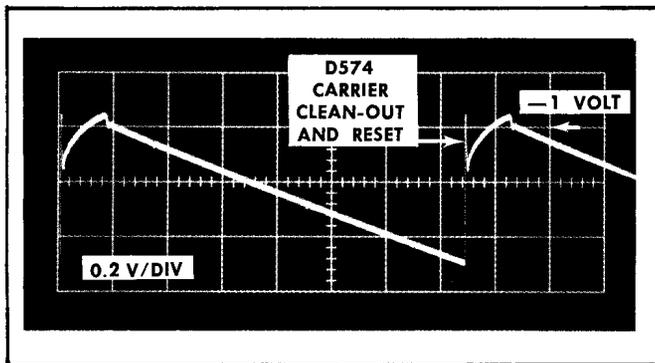

Fig. 4-16. Ratemeter Ramp.
The Ratemeter ramp consists of a Reset Multi (Q572-Q573), a constant current capacitor charging transistor (Q575) and the ramp capacitors that are charged at the constant current rate (C591 through C594). The Reset Multi conducts when driven by the Logic Drivers at one half the holdoff period. (See waveform (I) in Fig. 2-7 and Fig. 4-16.) The multi remains in conduction until whatever negative charge was in the ramp capacitor(s) is nearly discharged. When Q573 emitter reaches -0.95 volt, its collector current (mainly from the ramp capacitor) is reduced until R574 current turns D574 on and D572 off, which removes the turn-on bias to Q572. Q572 current drops to zero and both transistors stop conducting. Immediately constant current transistor Q575 starts the ramp capacitor(s) charging negative.